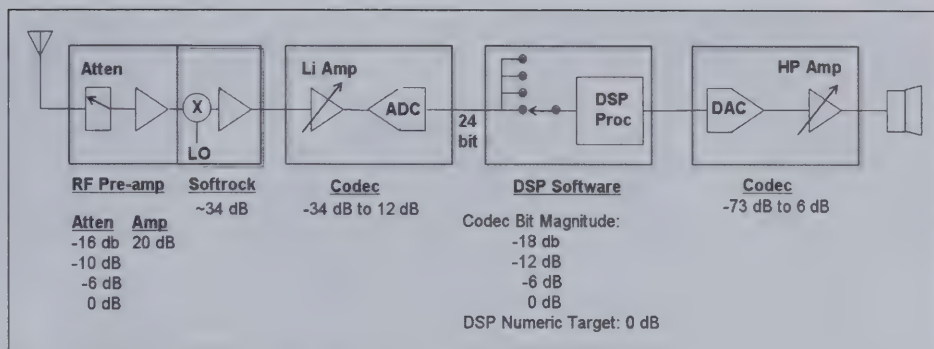

Figure 4—System gain distribution.
**System Gain Distribution**—And speaking of gain, we have plenty of adjustment opportunities throughout the system, from antenna to speaker. Each of the blocks shown in Figure 4 offers an opportunity to change the gain, and the goal would be to set each signal to the greatest level able to be processed by that stage without overflowing the digital registers, yielding the most dynamic range for each stage. Different from an analog radio, when digital registers overflow much more noticeable (bad) effects are evident. So it becomes most important to ensure that the digital levels are well managed.